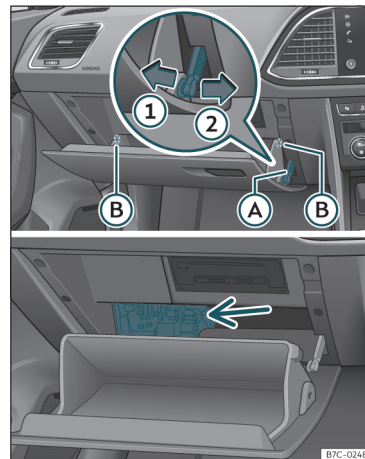

Fig. 44 Glove box (right hand drive): fuse box access.
- Undo the opening limiter >>> **Fig. 44 A** in two steps: first, unlock the limiter by pulling back on it (arrow ①) and then move it gently to the right (arrow ②). Remove the guide when the cover is in the normal opening position (30°).